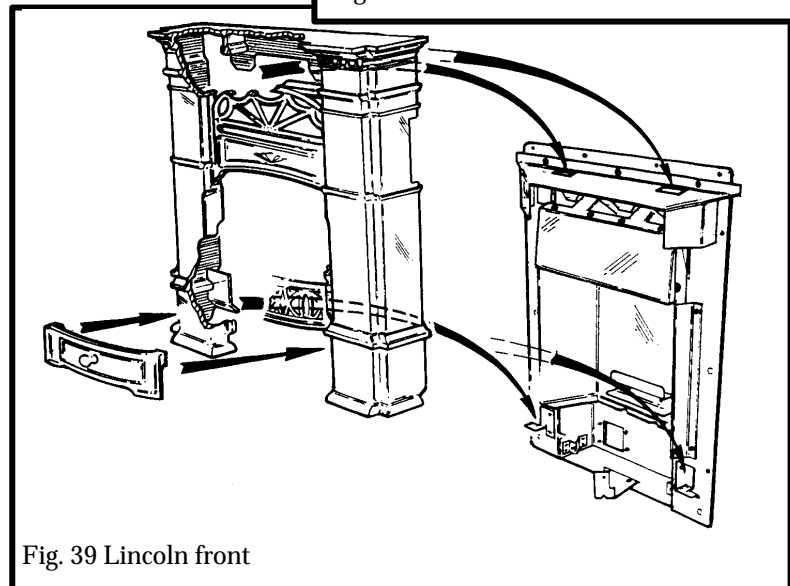

Fig. 39 Lincoln front
13.3.2.2 Raise the Cast front surround so that the lugs in the lower case support brackets and upper location plate are released from their locations in the fire unit – See figure 39. Lift the cast front clear and place safely.
hearth or fireplace surround. The cast front should sit squarely on the hearth and against the vertical surface of the fireplace. See figure 39.